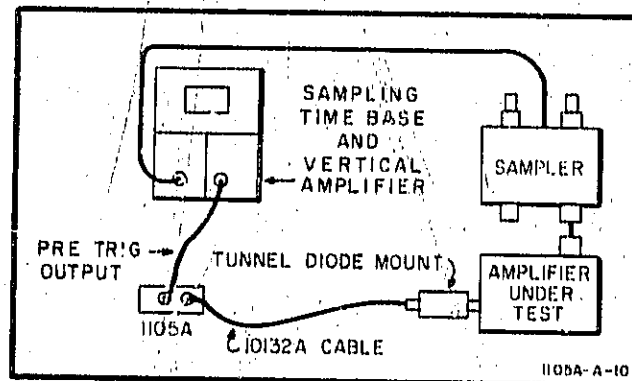

Figure 3. Typical Amplifier Risetime Measurement Test Setup
15. Wide-band amplifier risetime measurements are obtained in a manner similar to that used in measuring the risetime of oscilloscopes (Figure 3). However, in this application the combination of the oscilloscope and pulse generator risetime, used in the test setup, must be taken into consideration. This combination risetime can be calculated by transposing the equation of Paragraph 14 to solve for Tm.